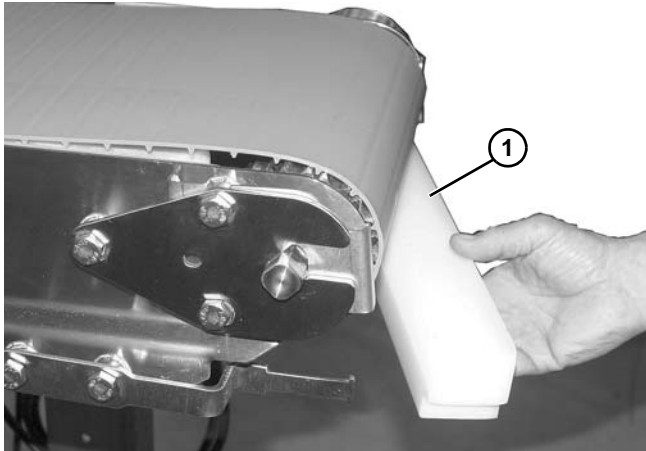
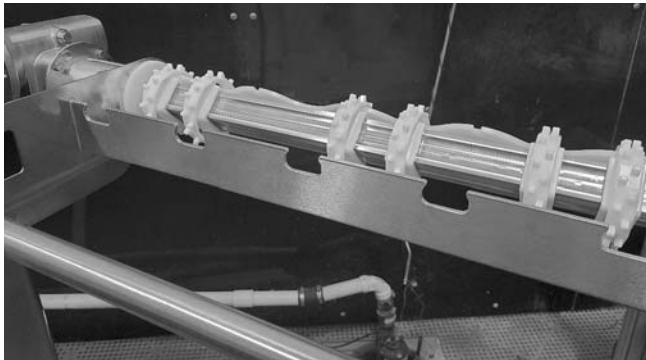
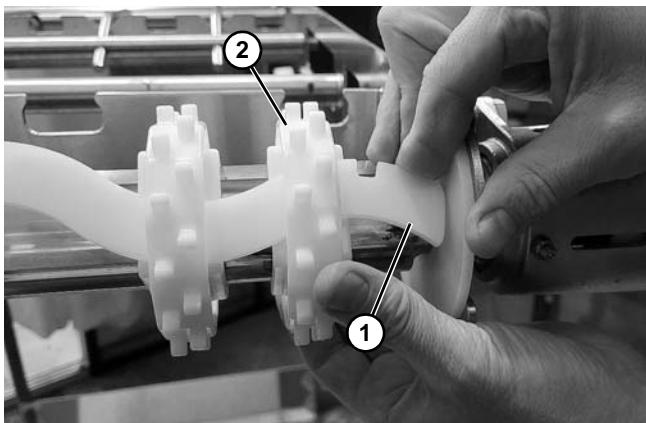
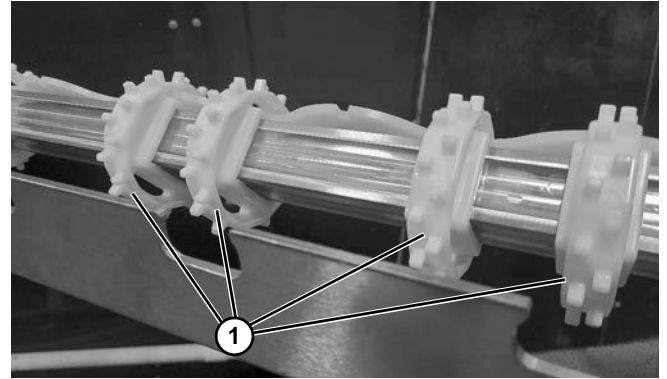

Figure 57
Figure 58
Figure 59
Figure 60
- c. Drive Tail: Remove limiter bar (**Figure 57, item 1**) and place in COP tank. Clean drive sprocket and tail (**Figure 58**). To disengage, push down on sprocket alignment key (**Figure 59, item 1**) while sliding sprocket (**Figure 59, item 2**) out of tab. Repeat procedure to clean remaining sprockets (**Figure 60, item 1**).